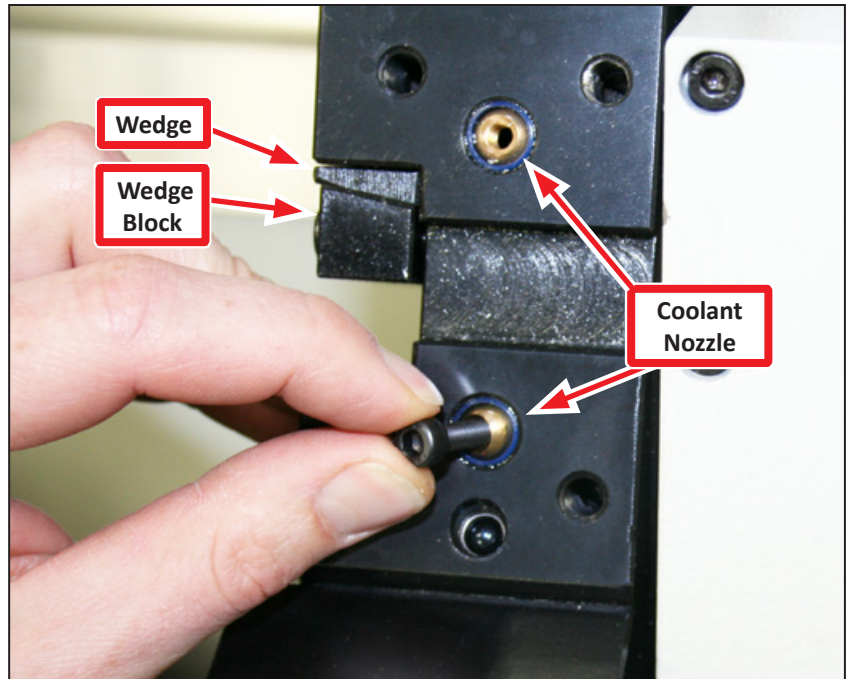

Figure 36
2. When the tool is inserted, push the Wedge back to seat in the rear of the pocket as shown in **Figure 36**.
Use M5 x 8 mm socket head cap screw (or hex wrench) to aim Coolant Nozzle as needed (see **Figure 36**).